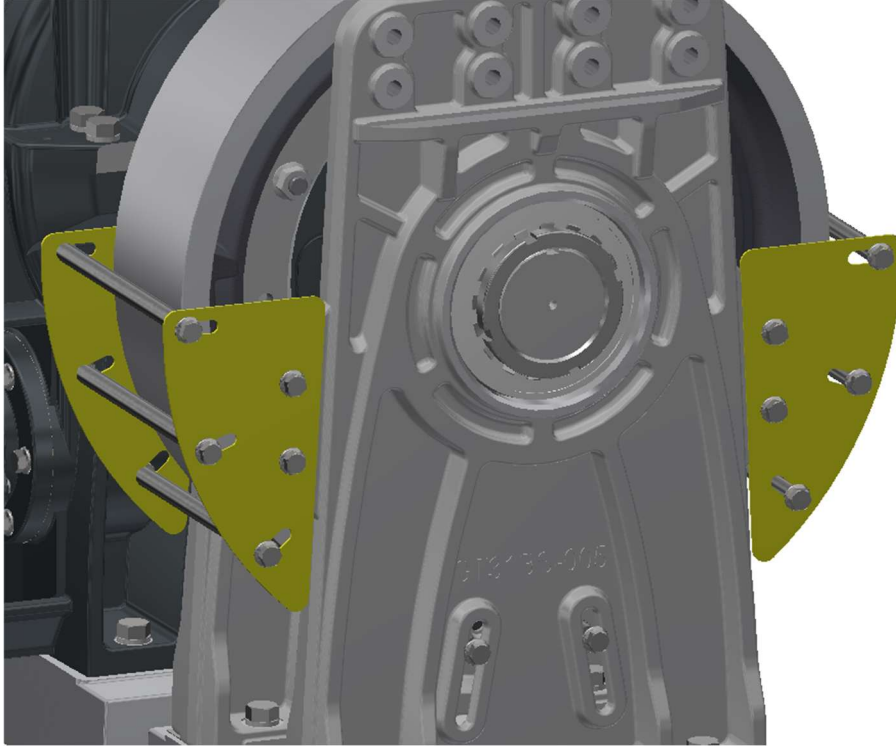

Figure 4-13: GT31 BS Machine Finished Assembly
- See Figure 4-13 for an illustration of a finished assembly.